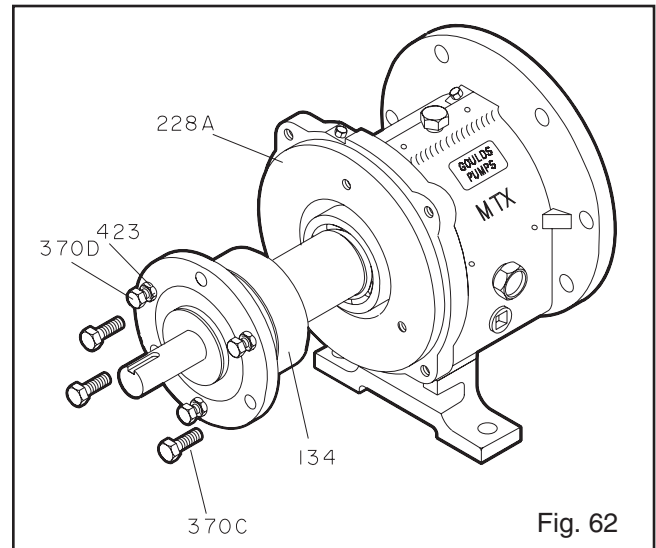

Fig. 62
1. Remove clamp screws (370C). Back off jam nuts (423). Tighten jack screws (370D) evenly, this will start bearing housing (134) out of bearing frame (228A) (Fig. 62).